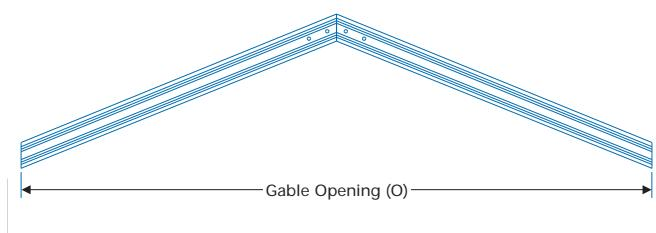
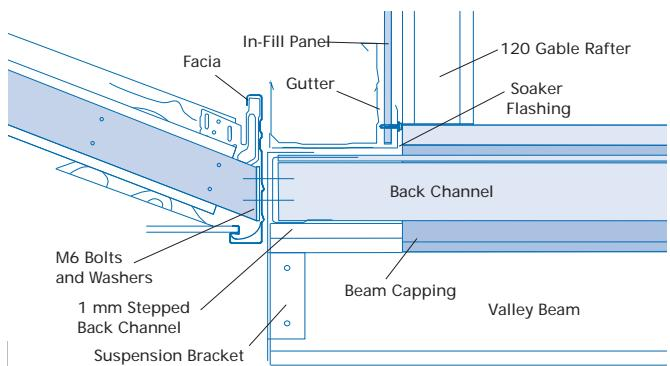
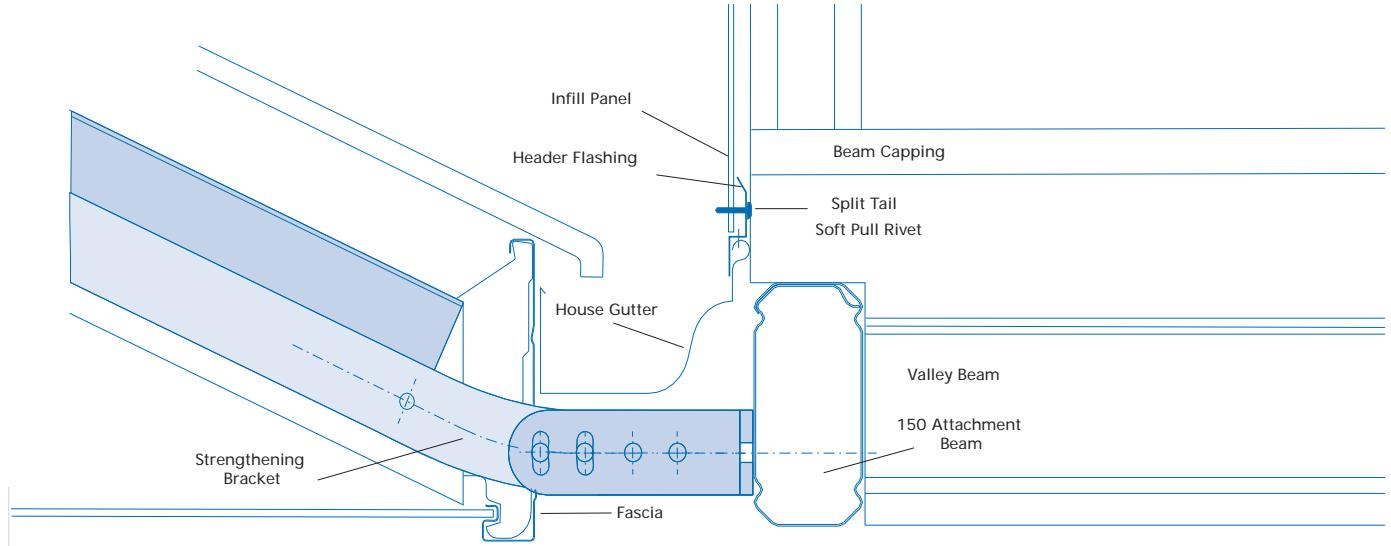

Figure 12
Figure 17
Figure 24
If fixing a Clearspan Gable on its end to an attachment beam, elevated to the existing house gutter height, the attachment beam is to be as close as possible (within 5mm) to the outside face of the gutter (Figure 24). The 150 attachment beam is fixed to rafter strengthening brackets as detailed in section 2.1.1.
Measure the distance between rafter ends, (O), to check valley beam spacing (Figure 12).
For units attached on the end to a fascia, suspension brackets are positioned at either side of the gable opening at the spacing determined in Section 3.0 (Figure 12). The top tab of the suspension bracket must be located between the fascia and back channel. A minimum of two M6 bolts with washers are fixed through back channel, suspension bracket and fascia (Figure 17).
For units attached on the end to an attachment beam (Figure 24), beam to beam brackets are positioned at either side of the gable opening at the spacing determined in Section 3.0 (Figure 12).
Fix the header flashing into position over the existing gutter lip with rivets. Infill panels are located behind the header flashing and fixed with split tail soft pull rivets at 500mm centres (Figure 24).